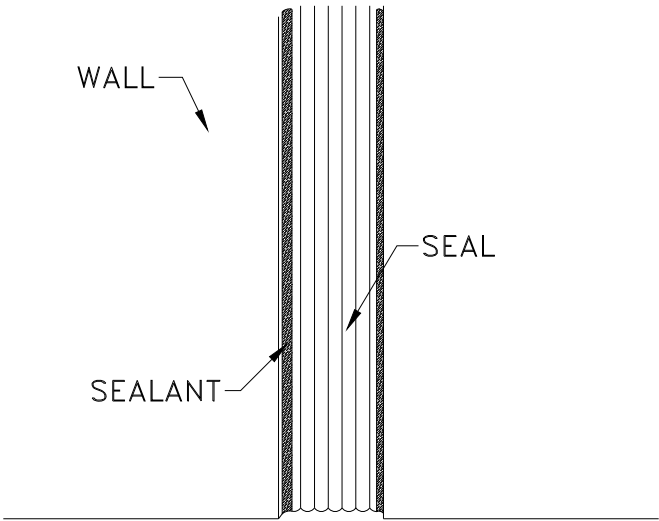

Figure 7
STEP 8. Select the Sealant35, and place a continuous bead of Sealant35 along the front edges of the seal, where the seal interfaces with the joint wall, on both sides of the seal (see Figure 7).